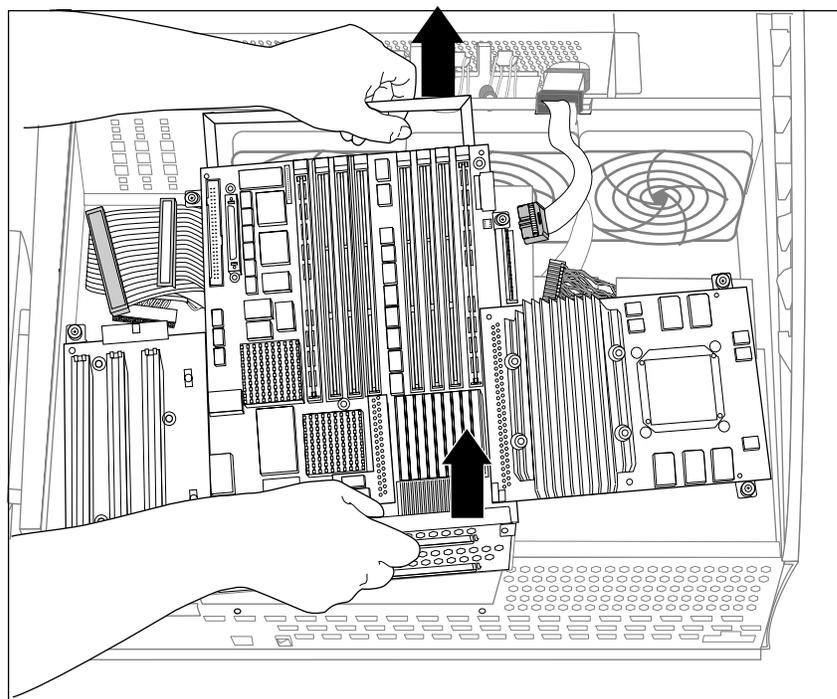

Figure 5-8 Removing the Logic Carrier
6. Lift the logic carrier out of the system, as shown in Figure 5-8.